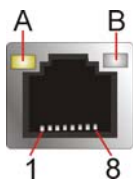

Figure 3-26: Ethernet Connector
- CN Pinouts:** See **Figure 3-26** and **Table 3-26**